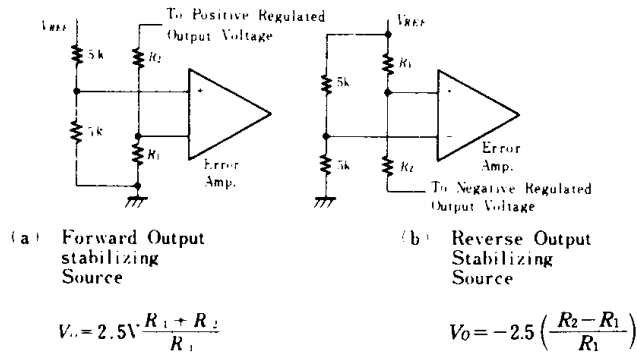

Fig. 2 Biasing in Error-Amplifier
As shown in Fig. 2 the reference voltage connects to non-inverted on inverted input terminal of error-amplifier via resistance divider.
**Error Amplifier:** Biasing in error amplifier is shown in the Fig. 2. Input Applied Voltage is required to be set within the range of common-mode Input Voltage (1.8V to 3.4V). If resistor and capacitor are inserted between phase compensation terminal (Pin 9) and GND in series, phase compensation is available.